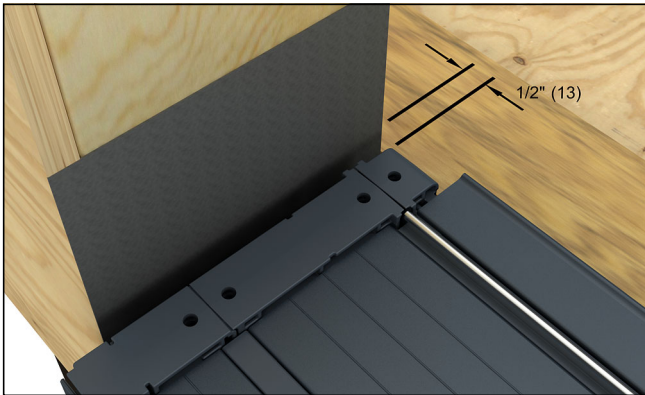

Figure 10
NOTE: For systems with side jamb(s), place the sill 1/2" (13) away from the side jamb RO. See figure 10.